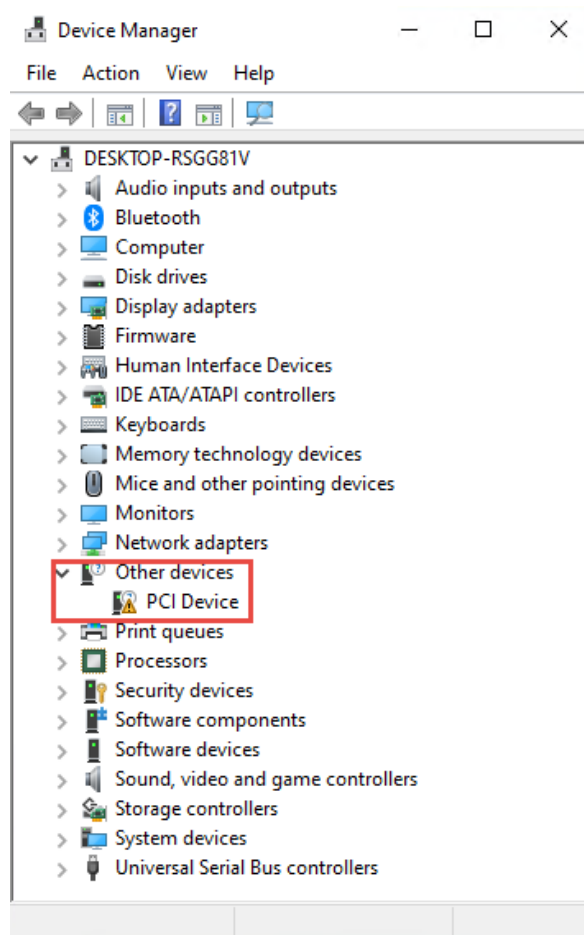

Figure 4-6 PCI Device in the Device Manager
7. Open the **Device Manager** in the Win10, you may see an unknown **“PCI Device”** (See **Figure 4-6**), that means the PCIe design is detected by the Host via Thunderbolt 3 interface. If the PCI device does not appear in the Device Manager, please re-plug the Thunderbolt cable again then check again.